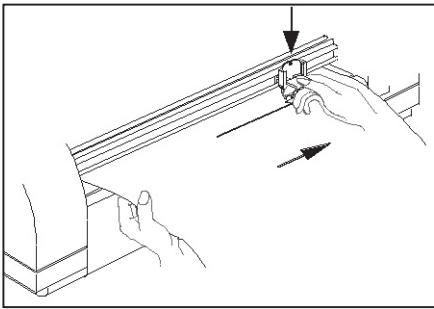

Figure 2
2. Grasp film with one hand, press the cutter downward into the application and slide it first to one end of the application, then to the other end to complete the cut (Figure 2 & 3).